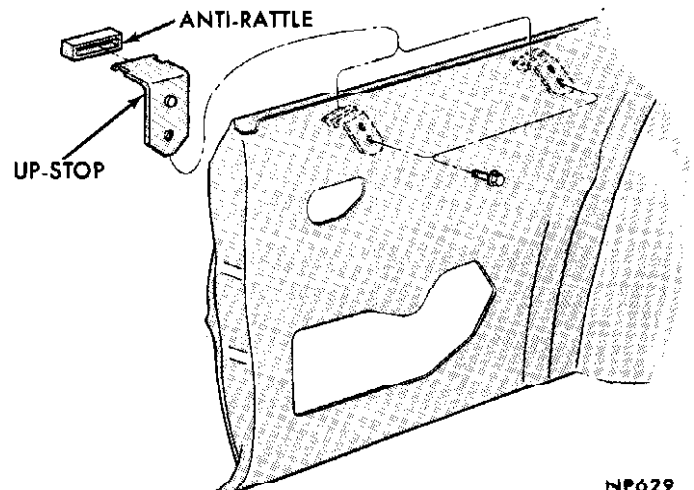
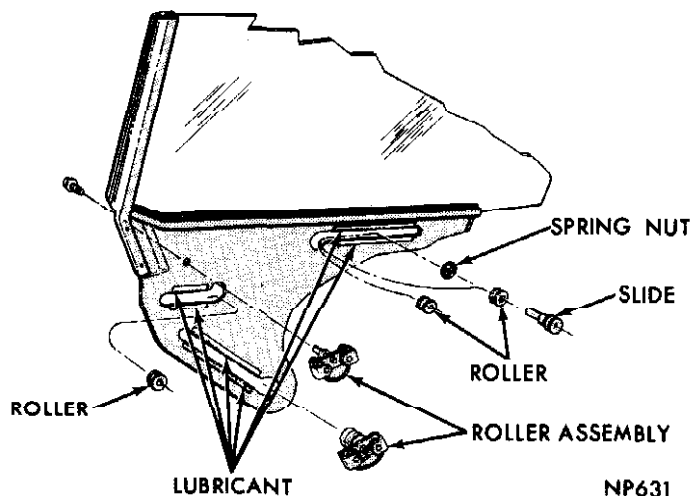

Fig. 39—Quarter Window Up-Stops—Hardtop
Fig. 41—Quarter Window Assembly—Hardtop
(5) Tighten adjusting screw on bottom of front track to lower brace.
(6) Position front and rear up-stops (Fig. 39) to glass lower frame stops and tighten screws.
- (2) Remove up-stops from lower frame (Fig. 39).
- (3) Remove glass assembly from door
- (4) Remove slide and roller from glass frame rear track and roller assemblies from tracks in front section (Fig. 41).